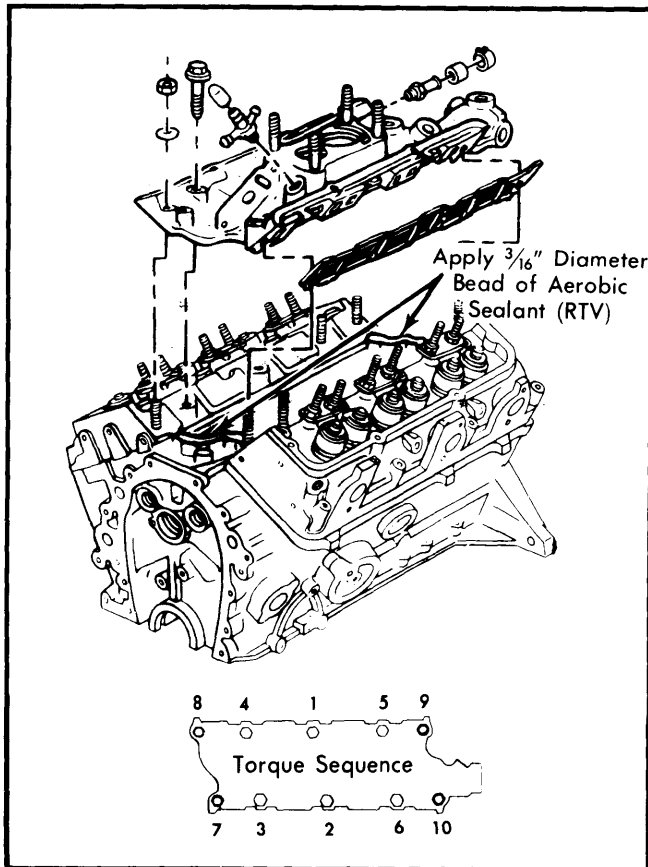

Fig. 1 Intake Manifold Installation
**Installation** — Apply a 3/16" bead of RTV sealer or equivalent on front and rear ridges of block. Install new gaskets on cylinder heads and extend RTV bead 1/4" onto gasket ends to hold them in place. Install intake manifold and check area between ridges and manifold for complete seal. Install bolts and nuts and tighten in sequence. See Fig. 1. To complete installation, reverse removal procedure.